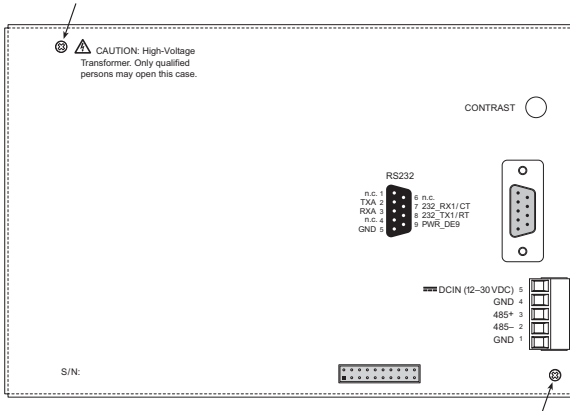

Figure 2-3. OP7100 Back Cover
1. Unplug any power supply connected to the OP7100 and remove the back cover from the OP7100 assembly. The back cover is attached with the two screws shown in Figure 2-3.
Compiling and running this sample program will overwrite the demonstration program shown in Figure 2-3.